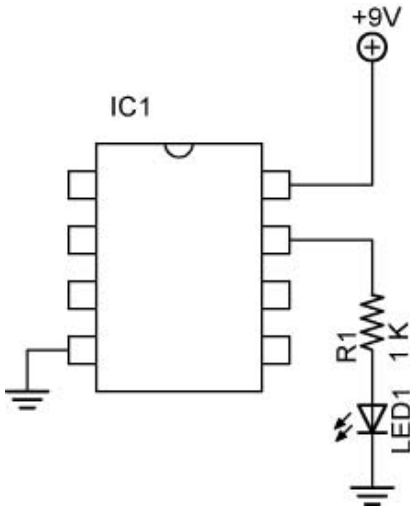
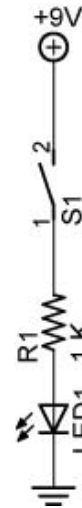

Figure 7: Chip Acting as a Source
Figure 8: Chip Acts as a Closed Switch
- **Chip as a Source:** In Figure 7 below, when the pin connected to R1 goes HIGH, the chip connects the source voltage (+9V) to the load (the LED), similar to the switch in Figure 8.